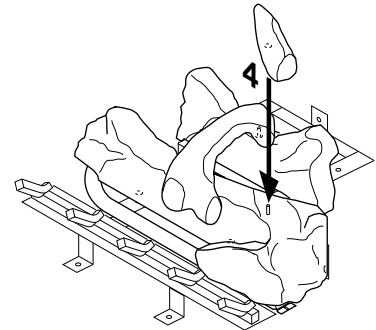

Figure 50 - Installing Log No. 4
4. Place log #4 (small, round log) on the pin on the right side of front log as shown in Figure 50.